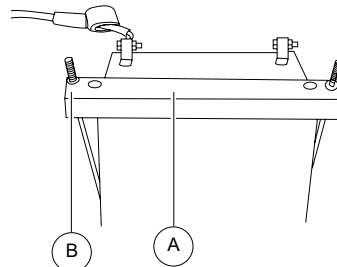

Figure 2-11. Battery Installation
- Install the battery as follows. See Figure 2-11.
6. Reinstall battery hold-down(A, **Figure 2-11**) onto battery.
7. Tighten nuts(B, **Figure 2-11**) until battery hold-down is tight. Do not over-tighten nuts.